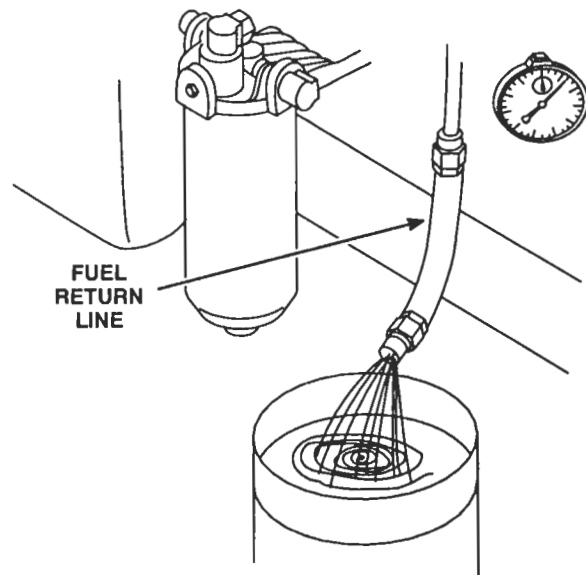

Figure 24. Measuring Fuel Flow
1. Disconnect the fuel return hose from the fitting at the fuel tank and hold the open end in a convenient receptacle (Figure 24.)